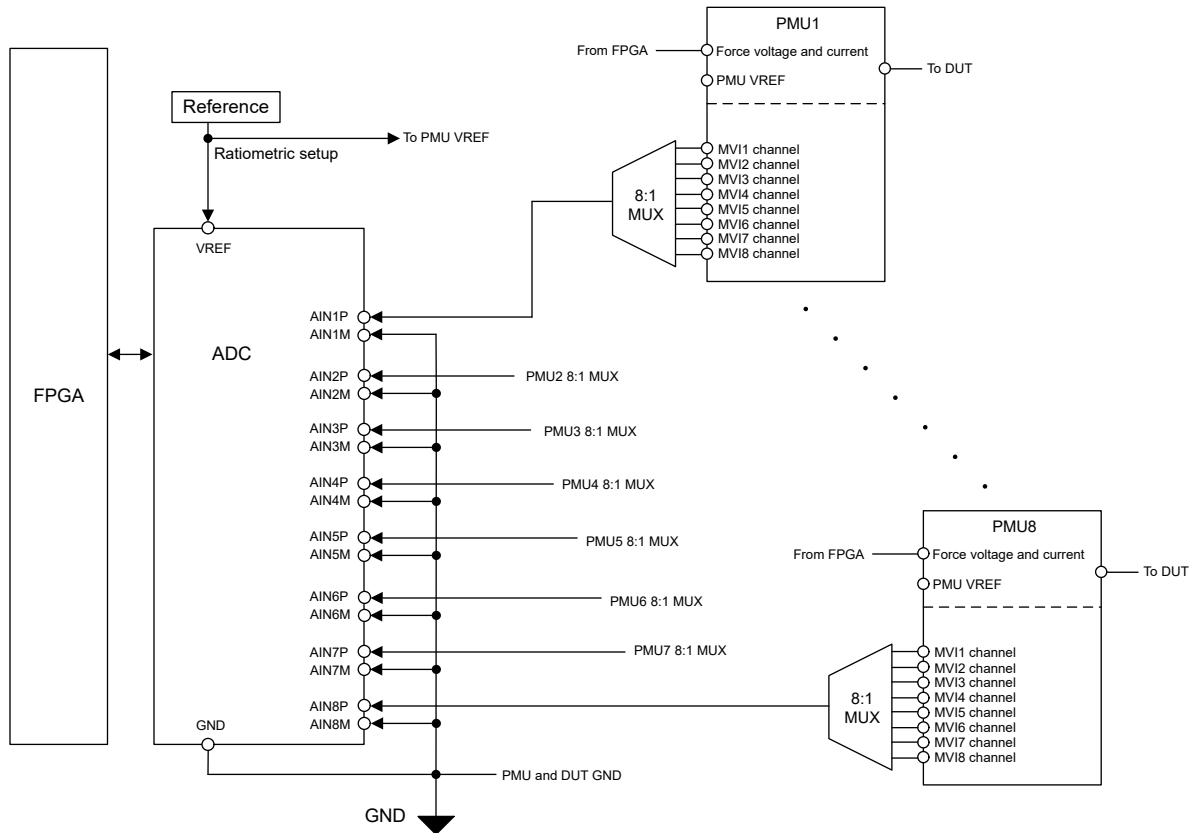

Figure 2. VI Card with 8:1 PMU:ADC Channel Count
VI cards can have each PMU MV_Ix output connected to the ADC channel, as shown in Figure 1. Alternatively, the subsystem can use a multiplexer to connect multiple PMU outputs to one ADC channel. Figure 2 shows an example where each PMU has 8 MV_Ix output channels multiplexed and connected to one ADC input channel. This enables higher channel densities for the VI instrumentation card and reduces cost.
The analog input bandwidth of the ADC must be higher when using multiplexers, like in Figure 2, to accurately capture the change in PMU output signals as the multiplexer output is switched. The ADS9813 features two user-selectable analog input bandwidths: Low-noise mode, up to 21kHz, and wide-bandwidth mode, up to 400kHz. The wide-bandwidth mode allows the ADS9813 to sample multiplexed PMU output signals as the device enables step-settling to 99.99% of the full-scale (FS) signal in 1.73μs. The low-noise mode optimizes signal bandwidth versus noise performance in applications which require fewer PMU output measurements, as shown in Table 3.